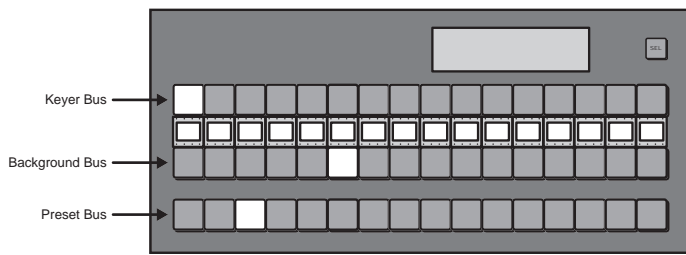

Figure 5.22 Video Sources Selected — After Transition
6. After the transition is complete, notice that the video sources you selected on the **Background** and **Preset** buses have swapped, or flip-flopped (Figure 5.22). What was on the **Preset** bus is now on the **Program** bus.